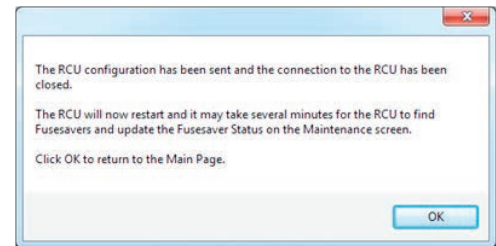

Figure 46: RCU Connect – the RCU restarts after the configuration has been sent
10. The user then sends the configuration to the RCU by clicking the “Send Configuration to RCU” button. This should be the last action that is performed for this RCU on the “RCU Configuration” screen, as once the user sends the configuration to the RCU, the RCU restarts, and the dialog box shown in Figure 46 will appear. The user can click “OK” to return to the main menu.